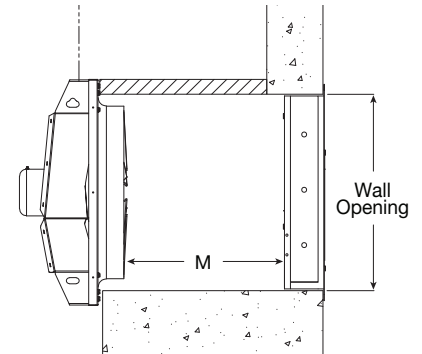

Figure 4 - Direct to Wall Installation (HCAI Seismic Required Installation)
Figure 4 shows the recommended wall opening and the minimum distance (M) suggested between the fan and damper for HCAI Seismic direct to wall installations.